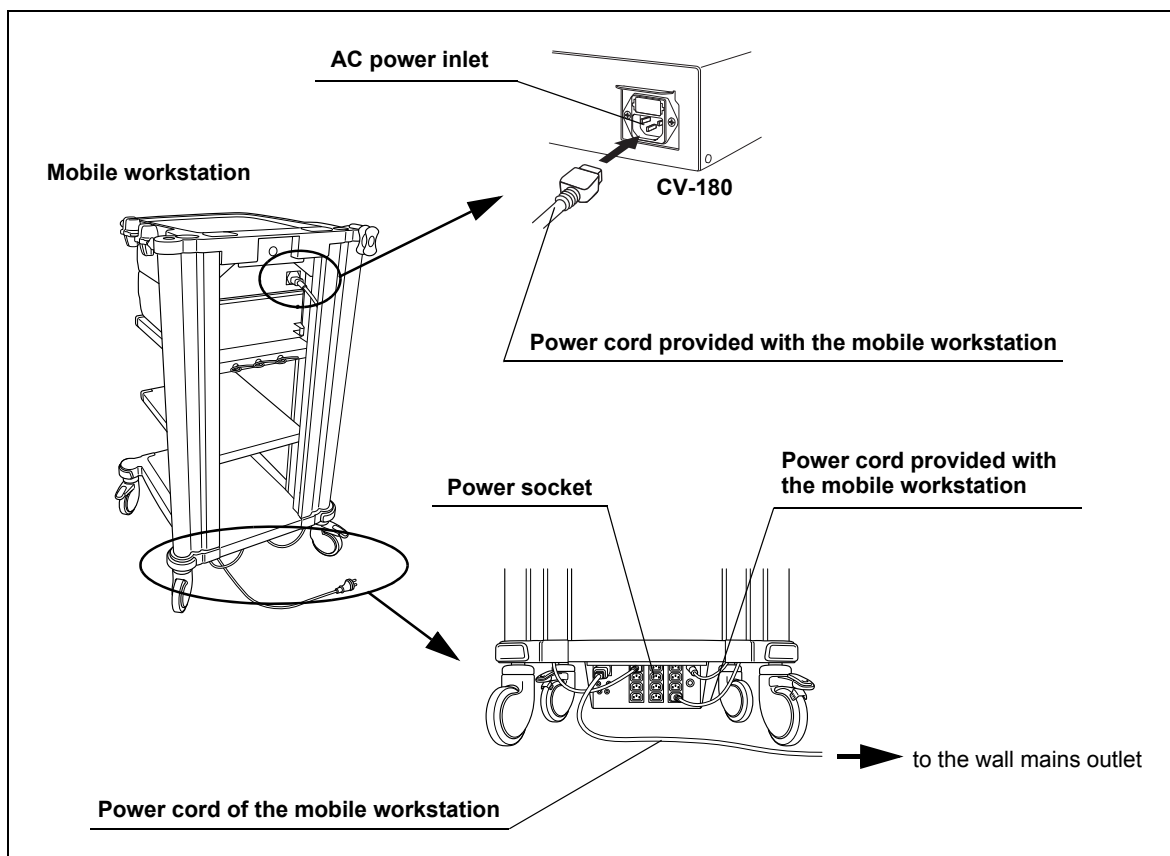

Figure 8.27
2. Connect the power cord provided with the mobile workstation to the AC power inlet of the video system center and the AC mains outlet of the mobile workstation (see Figure 8.27).